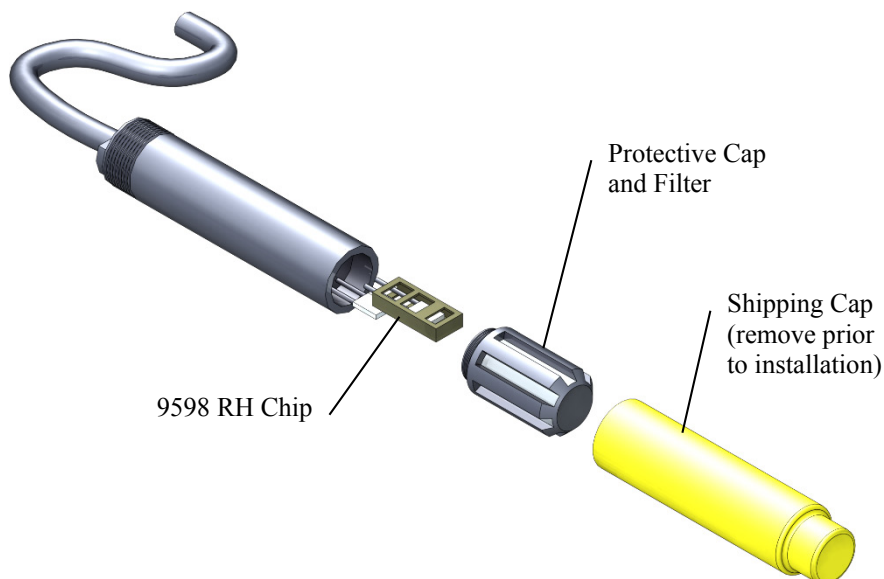

FIGURE 4-1. Exploded view of the temperature and RH sensor (adapter not shown)
- Check calibration of the HMP60-ETS temp/RH probe. Sensor will tend to drift up over time giving readings higher than 100%. Replace RH chip (pn 9598) if necessary (see FIGURE 4-1 and Section 4.1.4.1, *Procedure for Removing RH Chip*).
1. Unscrew the protective cap (see FIGURE 4-1).